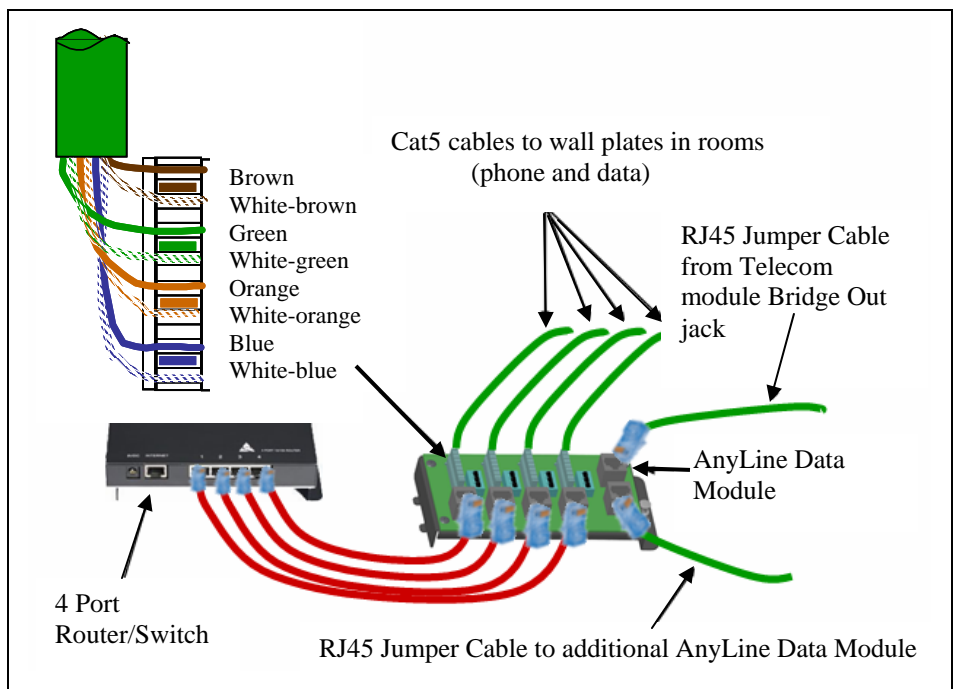

Figure 3
f. Identify room drops to be used and remove from the telecom module. Properly prepare the removed cables and terminate on the AnyLine Data Module's 110 punch down blocks (see *Figures 3 and 6*).